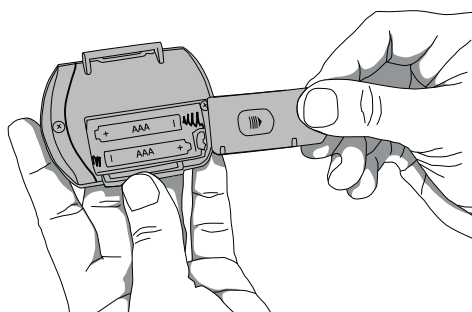

Figure 3: Remove Battery Door
1. Open the battery compartment by sliding the battery door off the back of the device (figure 3).